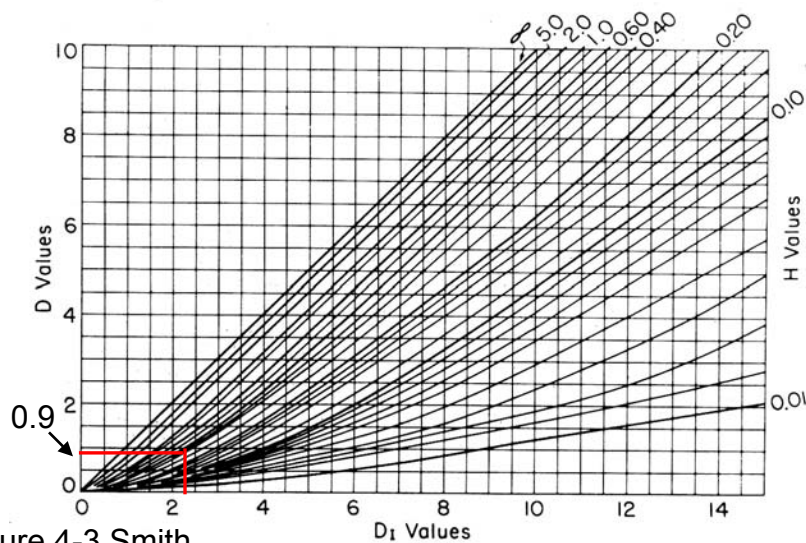

Figure 4-3 Smith
- determine  $D_o$  : Figure 4-3 pg. 134